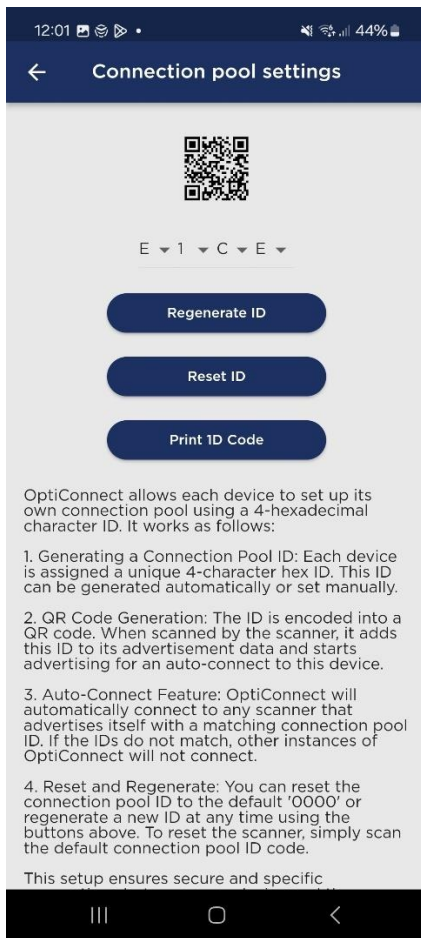

Figure 5-8: The *Connection Pooling* settings page where the ID can be generated and reset to default.
1. **Generating a Connection Pool ID:** Each device is assigned a unique 4-character hex ID, which can be generated automatically or set manually at the *Connection pool settings* page, located within the *Application Settings* menu (see Figure 5-8).